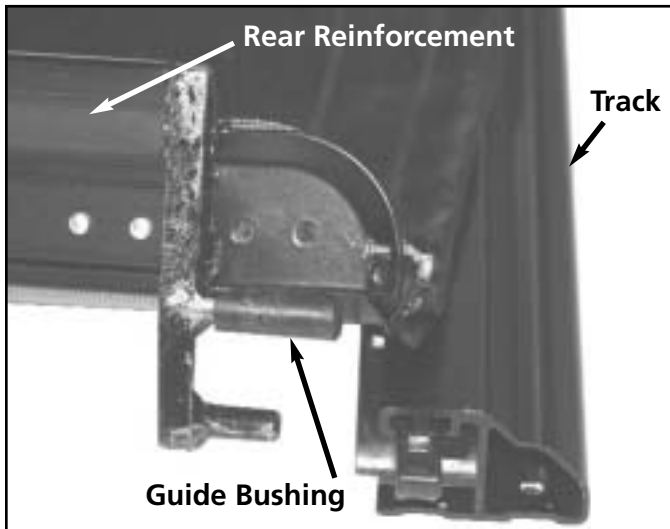

Figure S-58
8. Release the rear cover reinforcement from the trolleys. See figure S-58.